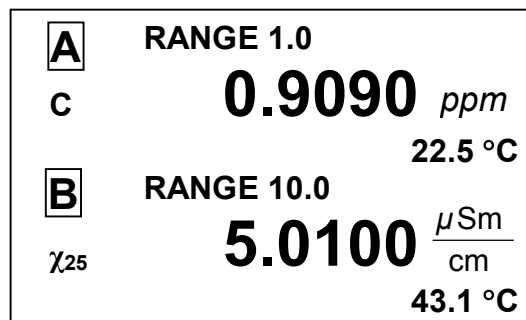

Figure 1.8
- double-channel (A and B) measuring mode screen according to Fig.1.8.